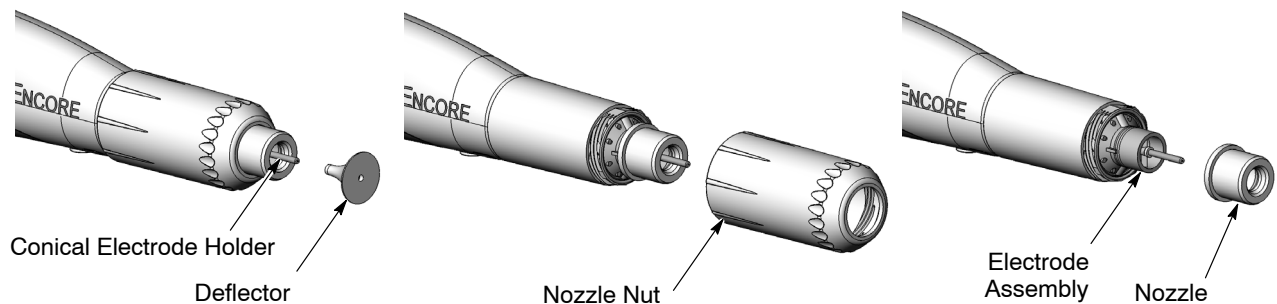

Figure 4-8 Changing a Conical Nozzle
2. See Figure 4-8. Gently pull the deflector off the electrode assembly. If only changing the deflector, install the new one on the electrode assembly, being careful not to bend the electrode wire.